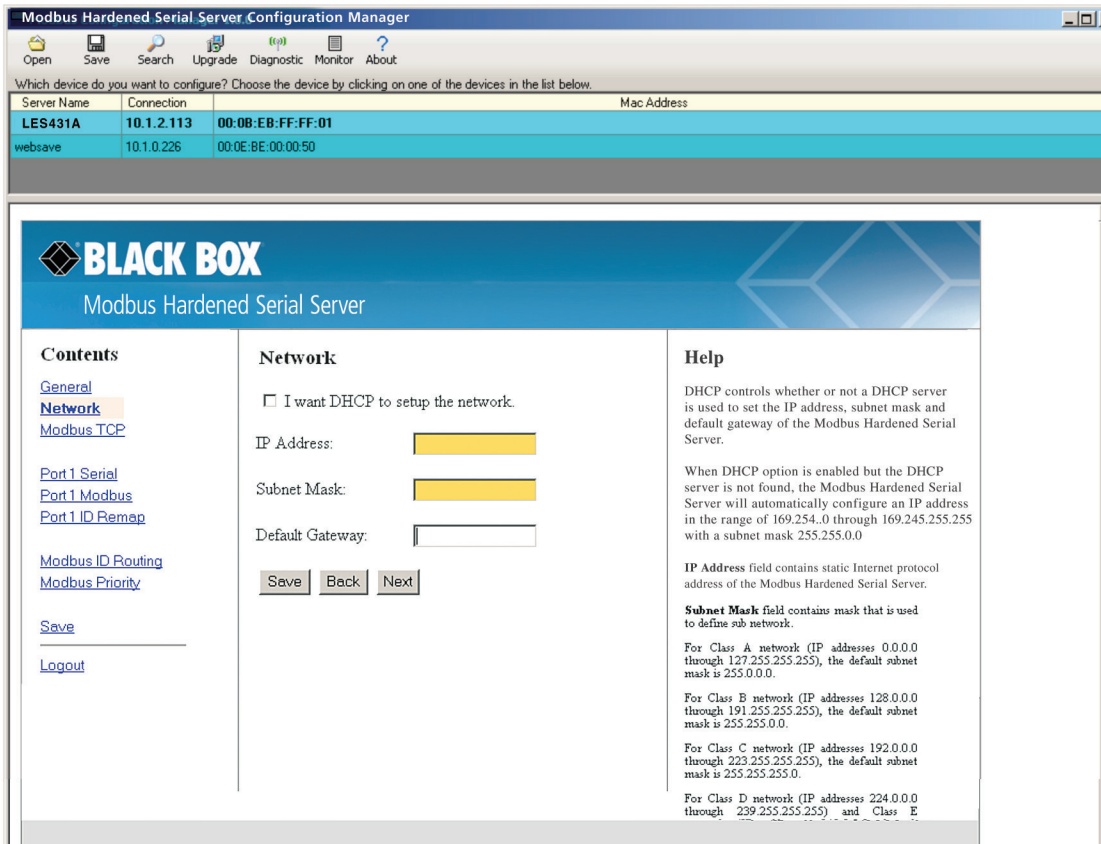

Figure 3-18. Network Settings screen (DHCP selected).
8. See the Network Settings screen in Figure 3-18.
NOTE: To see the rest of the information for Class D listed below that is cut off in Figure 3-18, scroll down in the screen.